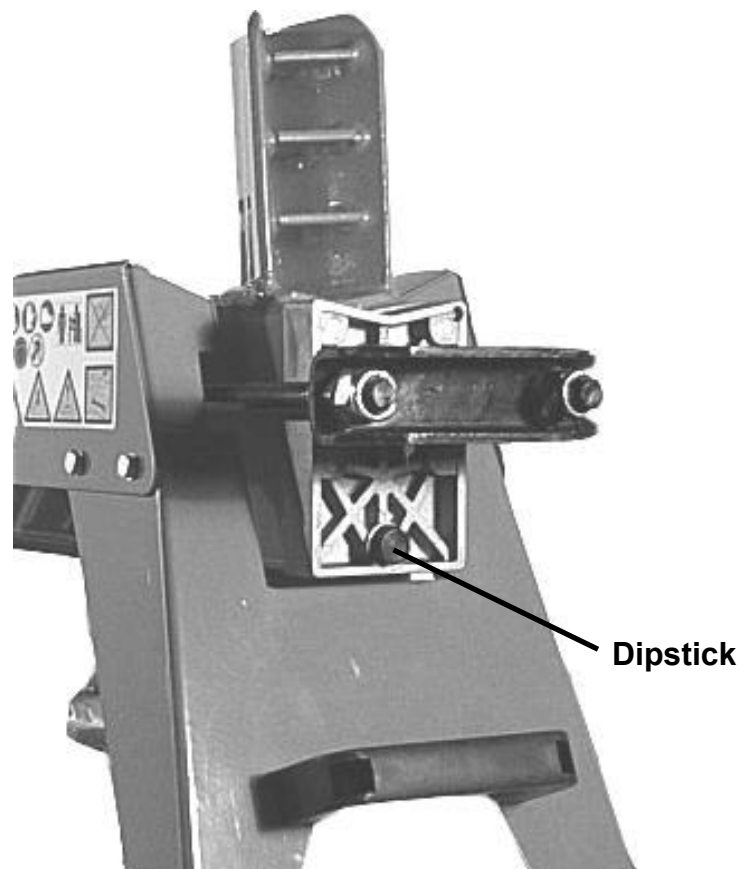

Figure 5
6. Clean the area around the Hydraulic Fluid Fill/Drain Port (*Figure 5*) and then, using the adjustable wrench, unscrew the Dipstick located in the Hydraulic Fluid Fill/Drain Port.
2. Clean the area around the Hydraulic Fluid Fill/Drain Port. See *Figure 5* on page 12. Loosen the Bleed Screw. Then, using the adjustable wrench, unscrew the Dipstick located in the Hydraulic Fluid Fill/Drain Port.